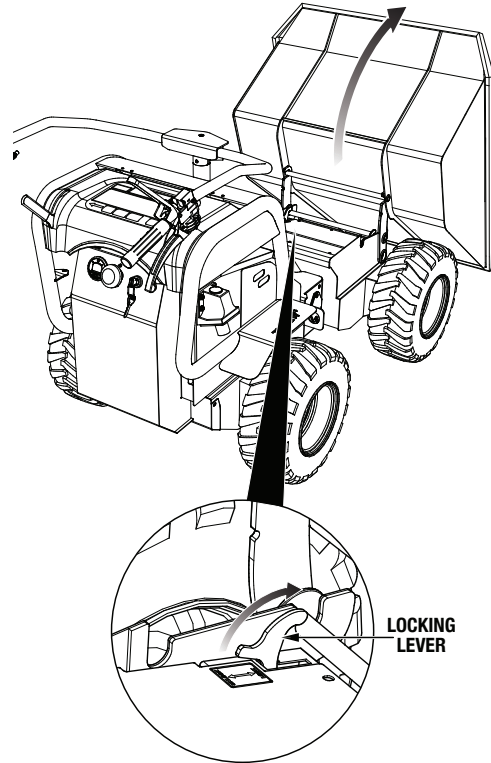

Figure 73. Locking Levers (Lock)
5. Tilt the tub into its discharge position and place both locking levers in the **lock** position (Figure 73).